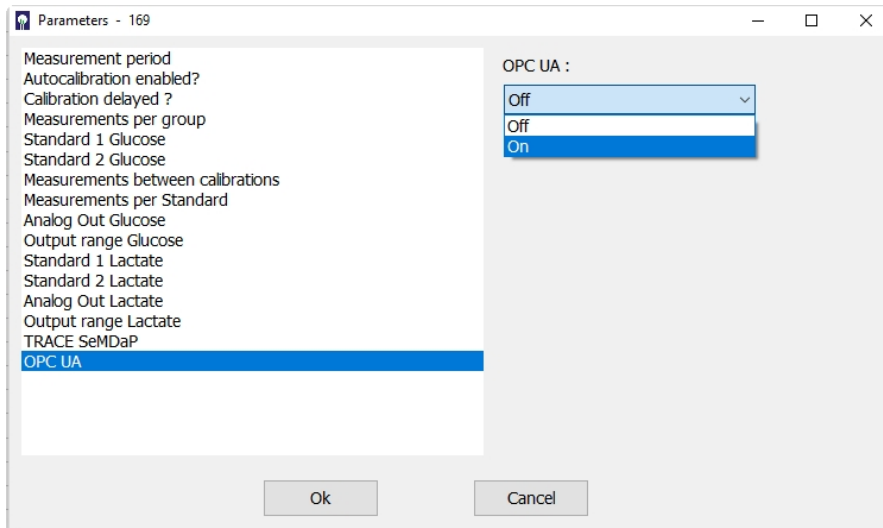

Figure 83: Activating the OPC UA server
- This function is factory disabled and can be activated here (Figure 83).